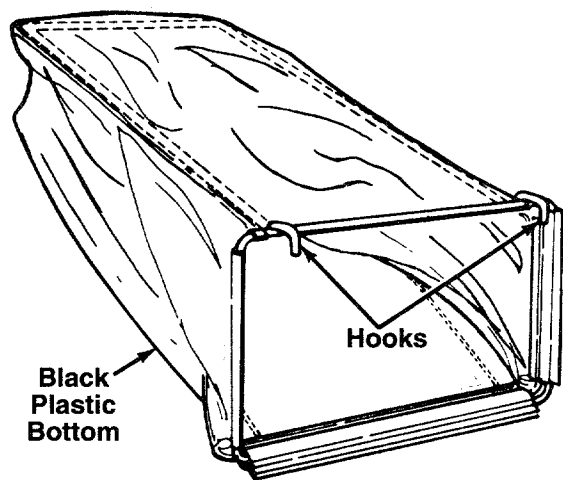

FIGURE 12.
2. Place the frame inside the grass catcher bag. The bottom of the grass bag is black plastic. The hooks on the front frame go toward the top of the bag. See figure 12.